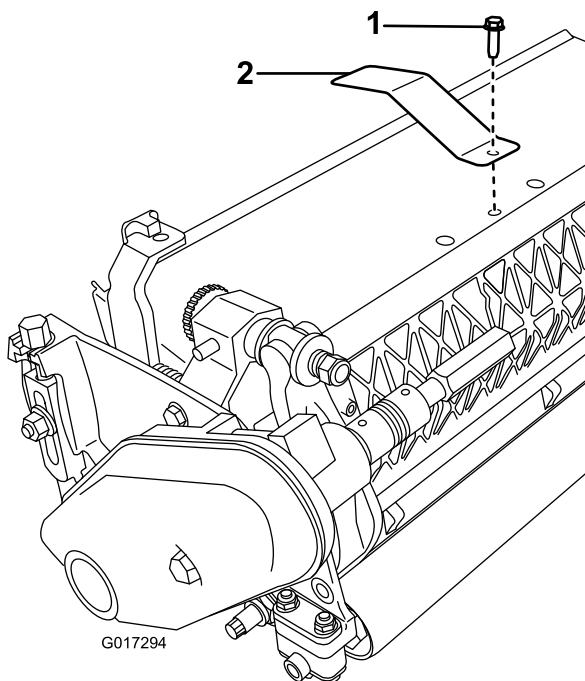

Figure 3
2. Remove the center, grass shield bolt (Figure 3).
3. Install the target plate to the top of the cutting unit using the bolt you removed previously (Figure 3).